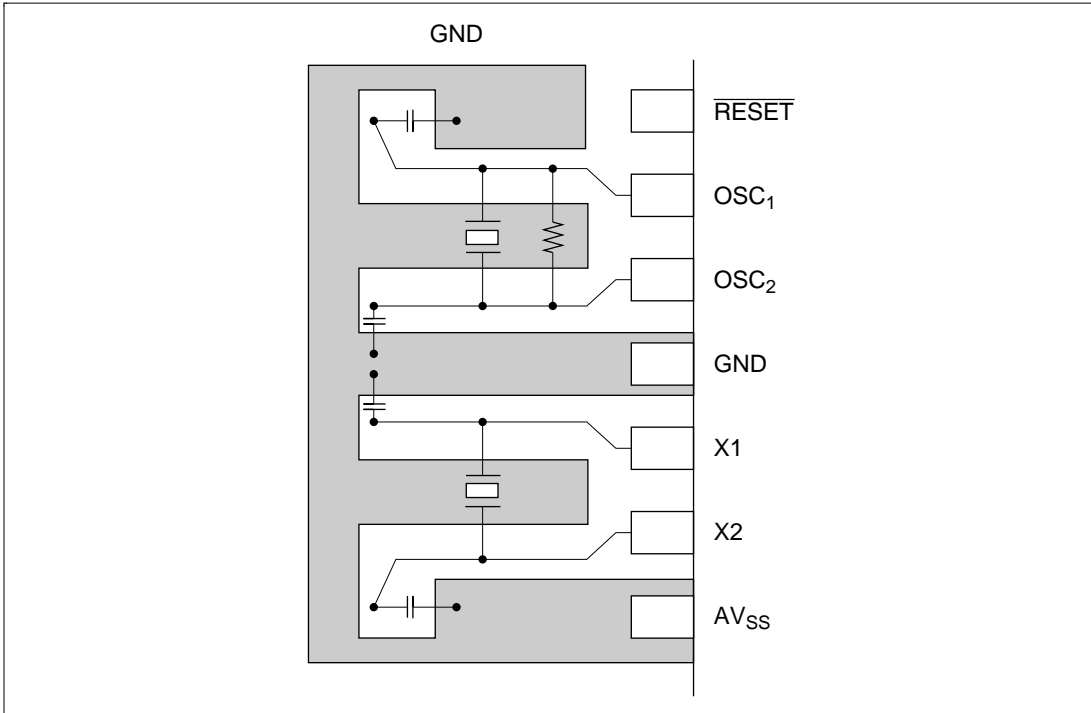

Figure 14-2 Wiring Example for Crystal and Ceramic Oscillators
- The distance between the OSC_1 and OSC_2 pins (and X1 and X2 pins) and the devices connected to those pins should be kept as short as possible. Do not allow any other lines to cross those lines. (See figure 14-2.) Correct oscillation may become impossible due to induced signals if any lines cross.